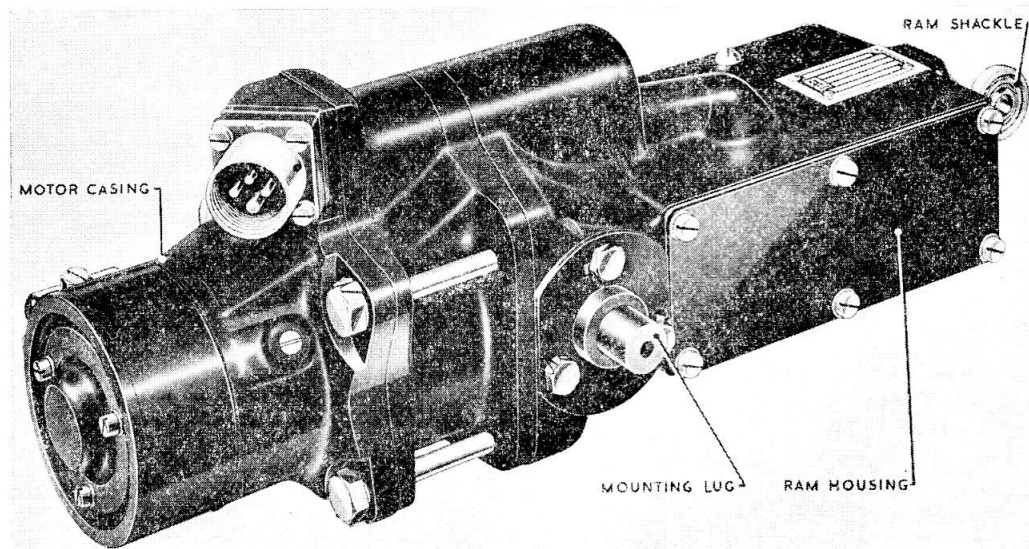

Fig. 1. A typical actuator in the A1300 series
2. A typical machine of the A1300 Series of linear actuators is illustrated in fig. 1. These machines are of "in-line" design, with the motor and ram on the same axis, and incorporate a screwshaft of truncated Whitworth form. Mounting is made by two mounting lugs provided on the sides of the actuator. The 28-volt motor drives the ram via a 3-stage epicyclic gearbox, and its rating is continuous at an operational cycle of two seconds on and six seconds off. Between the motor and gearbox is a drum-type electro-magnetic brake and a single plate phosphor bronze clutch.